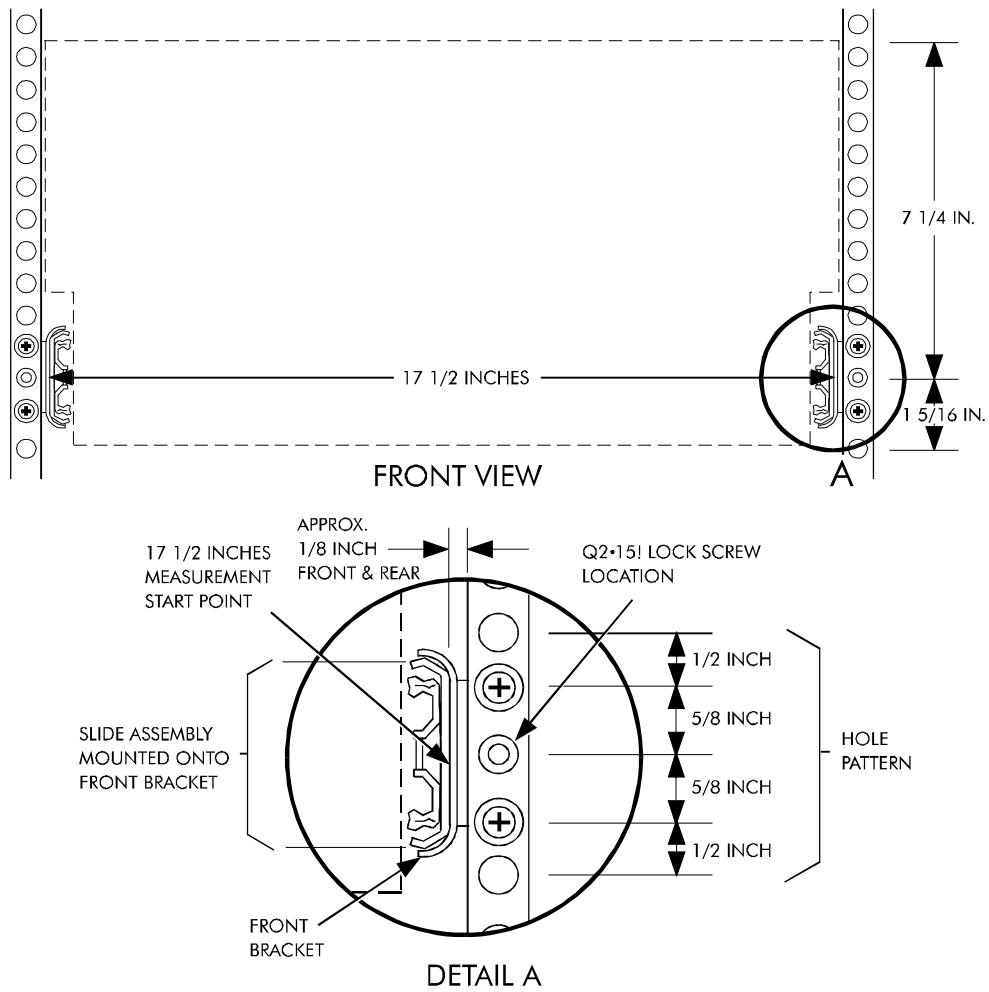

Figure 12. Dimensions for Rack-Mounting a Q2.15
Use one of the bar nuts included in the installation kit to determine the position of the Q2.15 in the rack. The bar nut has three holes drilled and tapped to accept 10-32 screws. The holes are on 5/8 in. (1.6 cm) centers, which corresponds to the hole pattern in an industry standard rack. **Figure 12.** shows the bar nut dimensions and how this appears in an instrument rack.
6. Adjust the front and rear mounting brackets so they are approximately 1/8-inch from the edge of the instrument rack (see **Figure 12**. on page 29). Tighten the screws firmly.
- 13.** Measure the spacing between the slide assemblies at both the front and rear brackets. The distance between the slide assemblies at the front and rear brackets must be 17-1/2 in. (44.45 cm) (see **Figure 12.** on page **29**). Adjust as necessary.